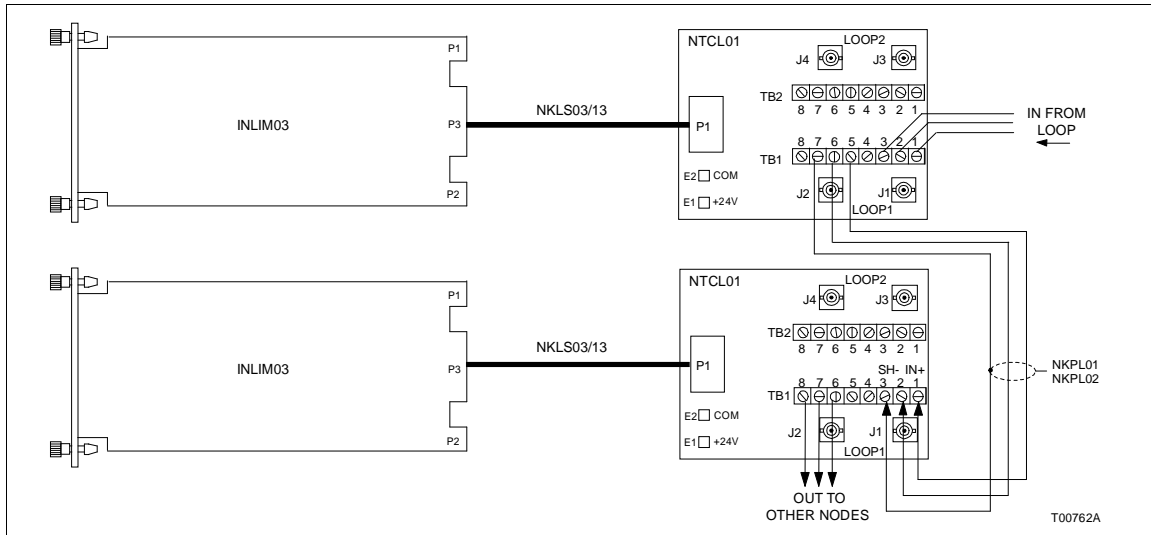

Figure 2-3. TCL Cable Connections to the INLIM03 with Twinaxial Communication Loop
After mounting the termination unit to the FTP, install the termination cables. Table 2-3 lists the cables, their application, connector assignments and length restrictions. Figures 2-3 and 2-4 show diagrams of cable connections to the LIM and NIS. To install the termination unit cable:
The communication cable connects the TCL to INFI-NET or Plant Loop. Table 2-3 lists the communication cables, their application, connector assignments and length restrictions. Figures 2-3 and 2-4 show diagrams of twinaxial and coaxial cable connections. To install the communication cable:
6. Insert the tabs of the replacement TU into the same slots of the termination panel standoff as shown in Figure 2-3 and slide the circuit board into position.